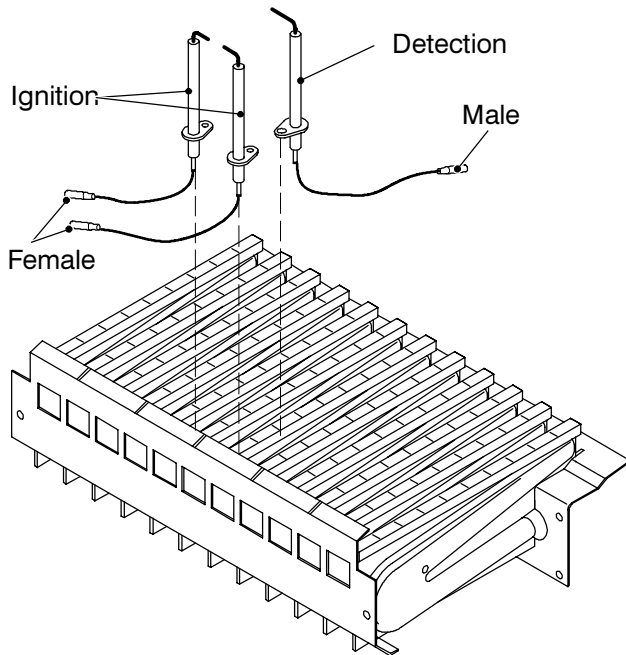

Fig. 72
- 6 Assemble the electrodes carrying out the removal operation in reverse order. Refer to Fig. 72 in order to recognise the electrodes and to correctly connect the wiring.